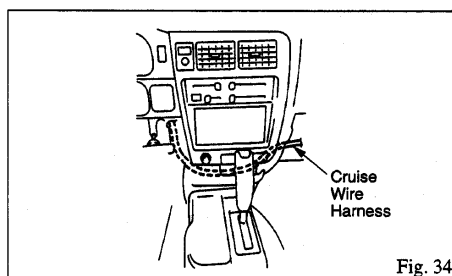

Fig. 34
- (10) Route the wire portion of (A) (controller), (E) (vehicle speed), (F) ("D" position, A/T vehicle) connectors and (L) (ground terminal) from driver's side to passenger's side through the back of center cluster panel. (Fig. 34)